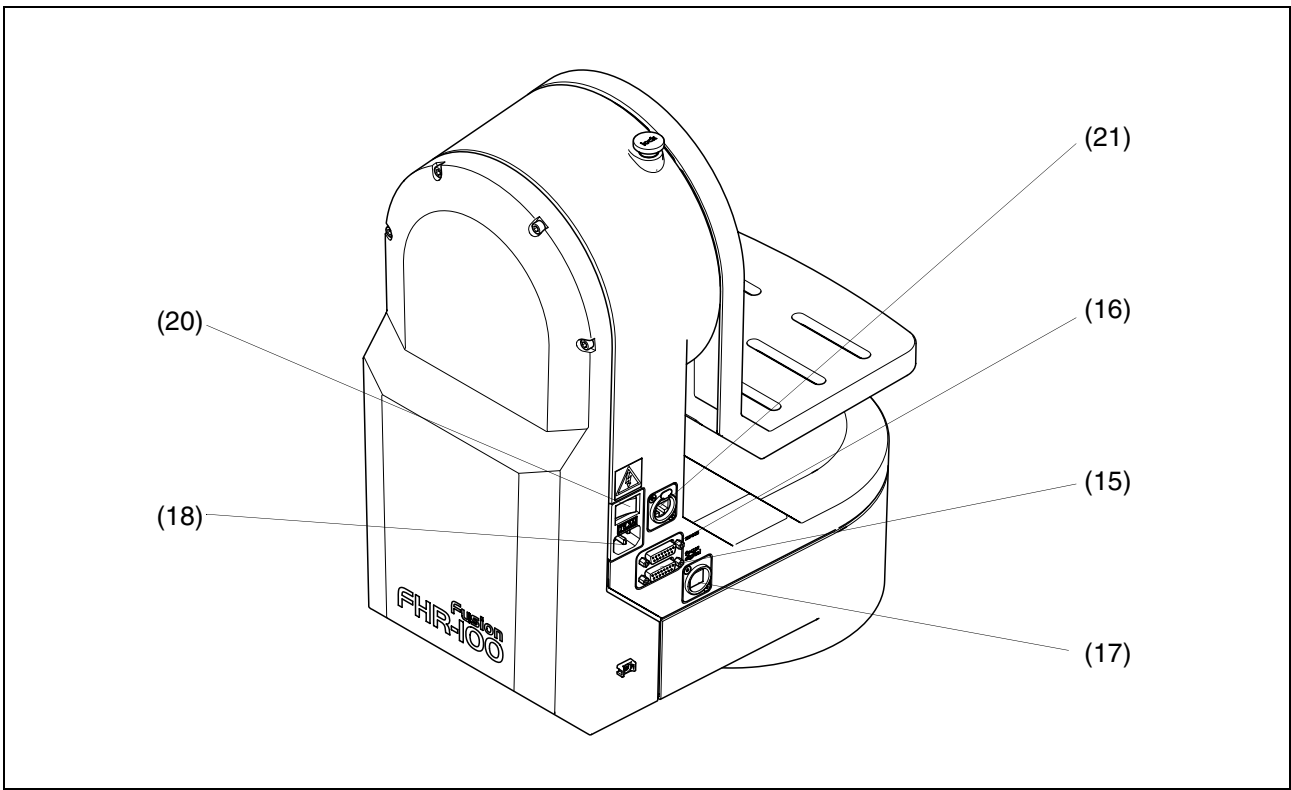

Fig 3 Fusion FHR-100 connection ports
This operator guide provides instructions for use of both Fusion FH-100 and FHR-100 pan and tilt heads. The FH-100 head (Fig 1 and Fig 2) has both manual and robotic capability, utilising lubricated friction (LF) drag assemblies for manual pan and tilt motions. Alternatively, the FHR-100 head (Fig 3) offers only robotic capability.
Note: The exact location of connection ports differ on the FHR-100 head, refer to Fig 3 on page 15 for clarification.